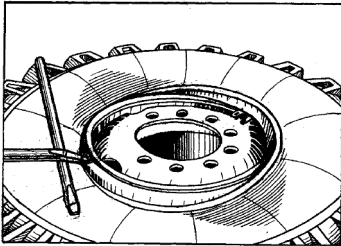

Fig. 51. Inserting Tire Bead in Rim Mounting Groove
4. To mount the second bead of the tire onto the rim stand onto the tire on the side opposite to the valve, recess this part of the tire casing bead into the mounting groove; in so doing the tire bead in the zone of limiter should be at the top, above the rim. If any difficulty occurs, upset a part of the tire bead behind the bead seat with the help of the tire irons as shown in Fig. 51.